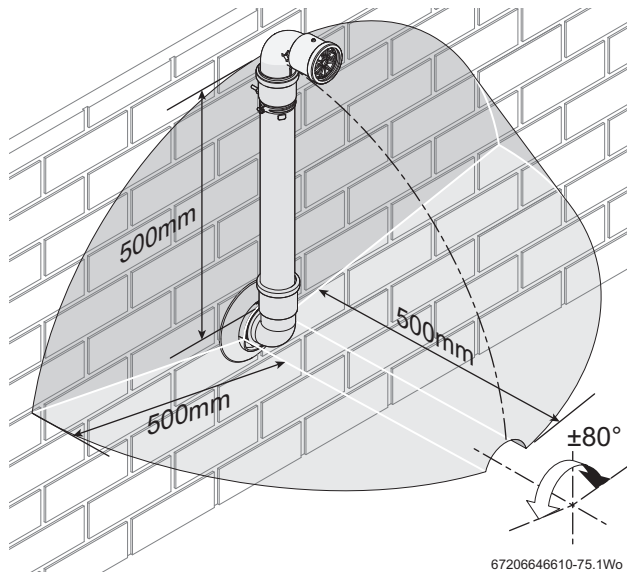

Fig. 23 Terminal exclusion zone
The minimum plume length should be calculated to ensure that the air inlet and exhaust have a minimum distance of 500mm between them (→ figure 23).
- ▶ Do not terminate the plume management inside the shaded area shown in figure 23